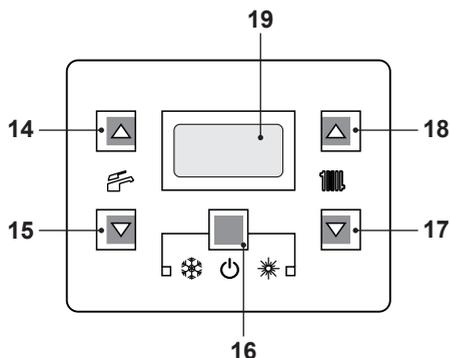
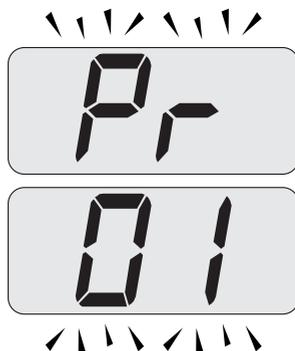
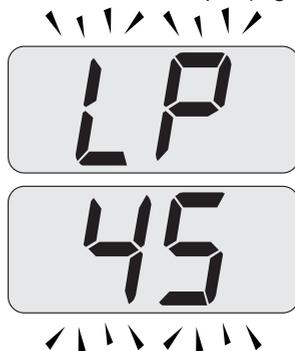
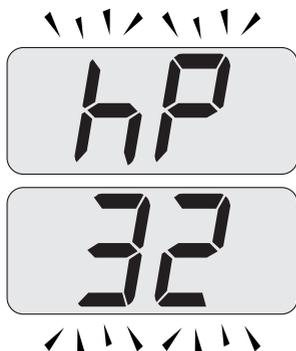

Fig. 10.17
Fig. 10.18
Fig. 10.19
Fig. 10.20
- Enter in "programming mode" by sequentially pressing and holding in keys, 16 - 17 and then 18 (Fig. 10.17) for 10 seconds until the letters **Pr** that alternate with code **01** are displayed on the LCD display, indicating that "parameter 01" (Fig. 10.18) has been activated.
- Press keys 17 and 18 (Fig. 10.17) at the same time until the LCD display displays the letters **LP** that alternate with the heating water temperature value (e.g. **45**), indicating the activation of the "flue sweep function" at minimum output (Fig. 10.19).
- By pressing 18 (Fig. 10.17) it is possible to change power in flue sweep mode: with the letters **hP** on the LCD display which alternate between the heated water temperature (i.e. **32**), we are in the "flue sweep function" at the minimum power during heating (Fig. 10.20).
- Press sequentially keys, 16 - 17 and then 18 (Fig. 10.17) and hold in for 10 seconds to exit the "flue sweep mode" and return to the previously set boiler status (Fig. 10.23).